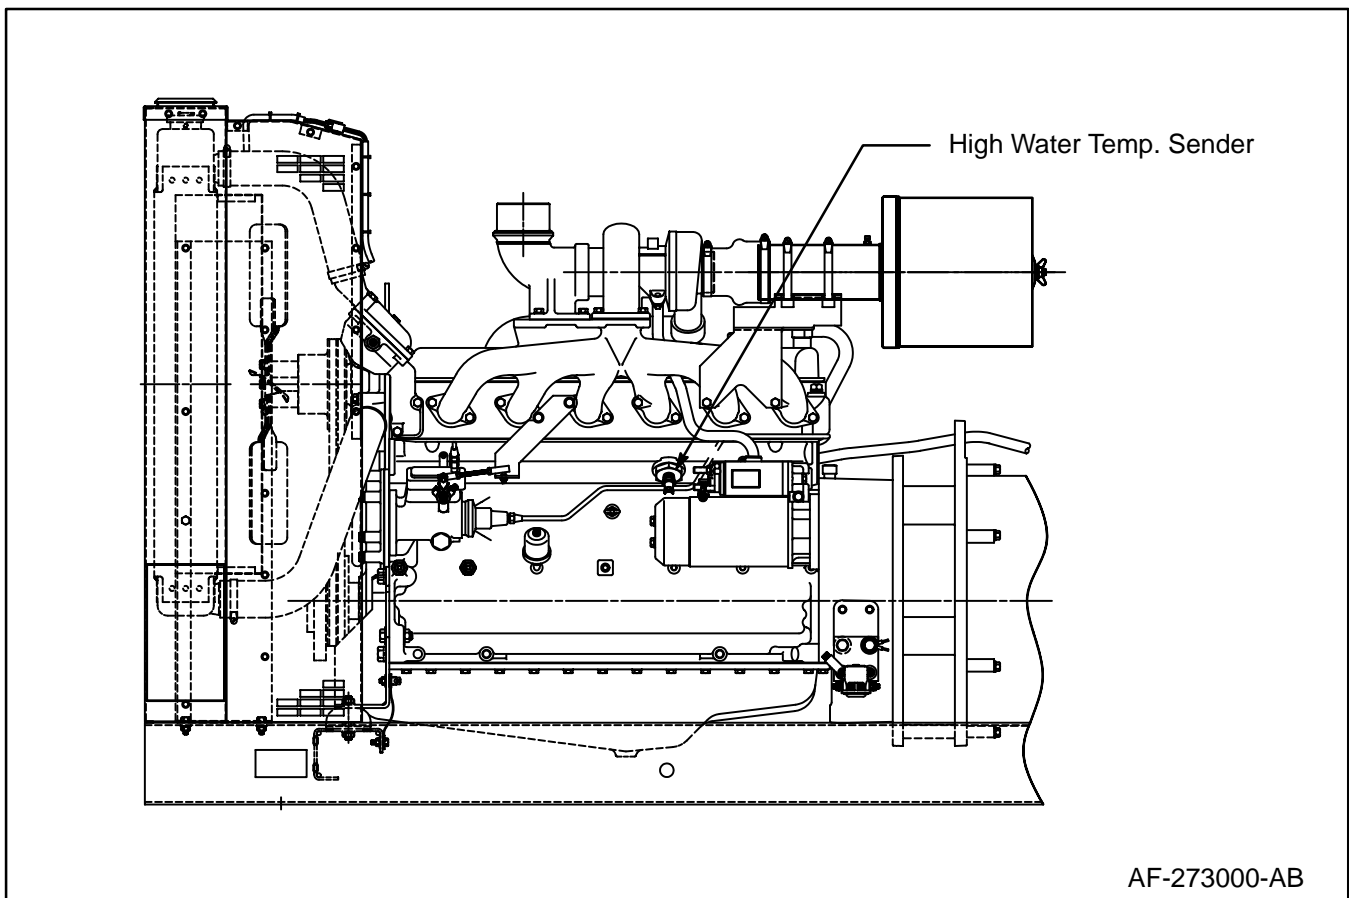

Figure 2. High Water Temp. Sender Relocation.
5. If the High Water Temp. Sender was removed in step 3, it must now be relocated to the position indicated in Figure 2. Replace the plug and O-ring near the starter with 273692 tapped plug and 273693 O-ring, and then install the High Water Temp. Sender into the plug.